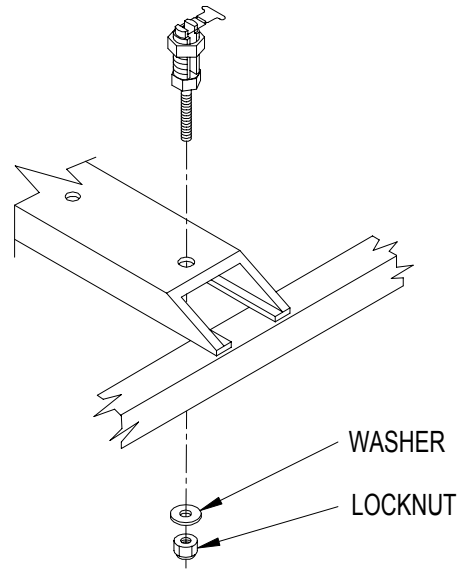

Figure 4-63. Ground Stud Terminal
- (1) Shut down generator set.
- (2) Disconnect ground wire from ground stud terminal (Figure 4-63) as necessary.
- (3) Hold terminal body hex with wrench and remove locknut, washer, and ground stud terminal from generator set frame.
- (1) Apply corrosion preventive compound (Item 5, Appendix E) on frame contact points and install ground stud terminal (Figure 4-63) in generator set frame with washer and locknut. Hold terminal body hex with wrench. Torque locknut to 35 lbs-in. (3.95 Nm) from bottom. Apply insulating electrical compound (Item 22, Appendix E) to threads of locknut prior to assembly.
- (2) Connect ground wire to ground stud terminal as necessary.